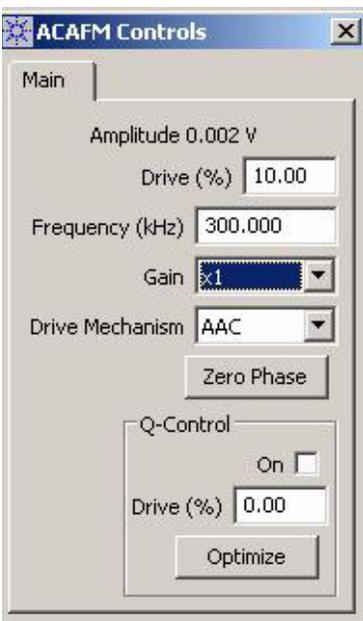

Figure 71 ACAFM Controls window
- 3 Choose **Controls > AC Mode** to open the **ACAFM Controls** window (Figure 71).